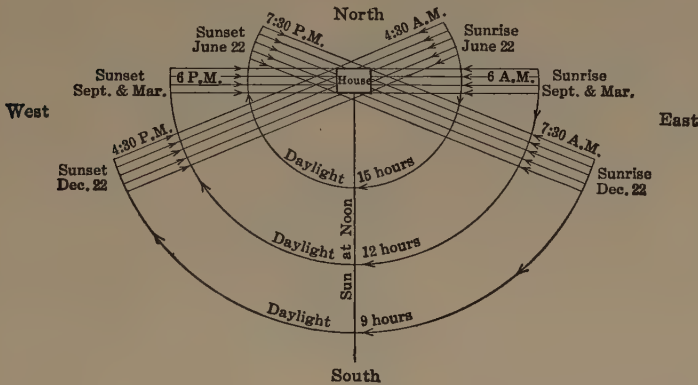

FIG. 239. — Direction and duration of sunlight for the different seasons. How many hours will a December sun shine into an east window?
**Facing the sunlight.** The orientation of the house is considered of great importance by many architects. Study of the diagram (Fig. 239) will show that except for a short time in summer no direct sunlight can enter north windows. Little-used rooms and hallways when possible should be placed on the north. Rooms used much of the time as living room and kitchen are best with a south exposure. The sun is at such high altitude in summer that it does not shine far into south windows. But at the low altitude of winter it does reach deeper into the room.